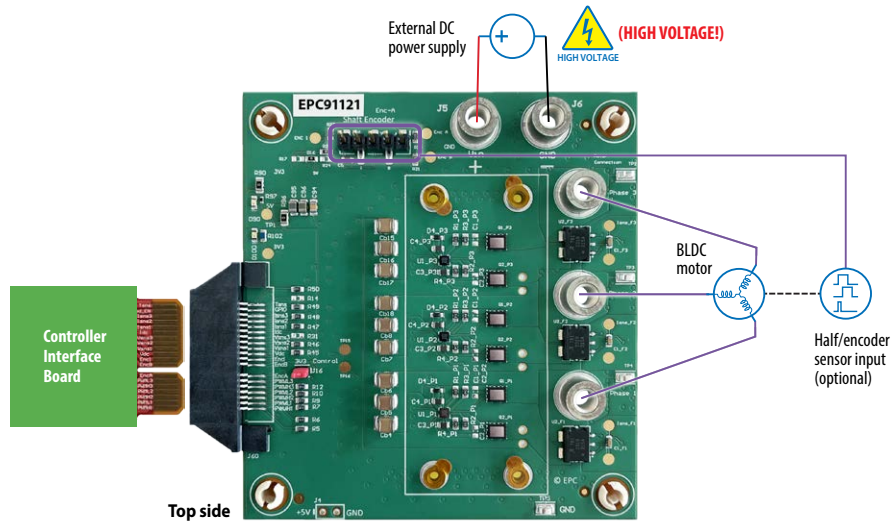

Figure 5: Connection diagram of the EPC91121 configured as a motor drive inverter
2. Connect the correct motor, whose parameters are programmed into the controller, to the EPC91121 at connectors J1, J2, J3, and the DC power supply at connectors J5, and J6 (**Observe correct polarity, there is no inverse polarity protection on board**) and shown in figure 5.